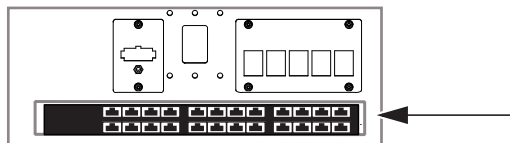

Figure 10. Back view of a chassis with an Ethernet switch
- Place the switch in the chassis so that its ports face the back of the frame (the ports should be visible through the horizontal opening in the Back Tie Plate as shown in Figure 10).